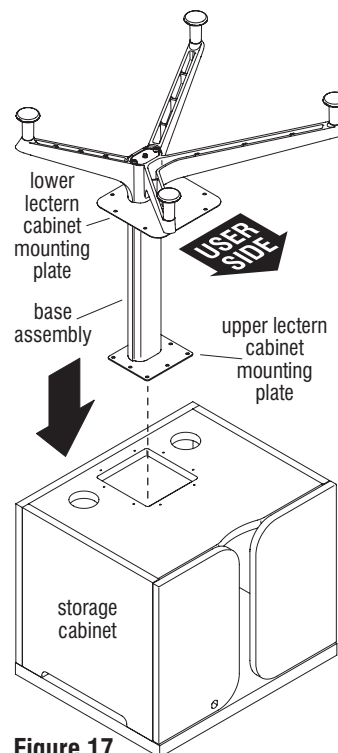

Figure 17
12. Carefully place the storage cabinet upside down on a soft, protective surface. Position the base assembly over the storage cabinet as illustrated with the longer legs facing the cabinet doors side. Then, insert the upper lectern cabinet mounting plate through the opening in the underside of the storage cabinet and allow the lower lectern cabinet mounting plate to rest on underside of the storage cabinet (Figure 17 & Detail W).